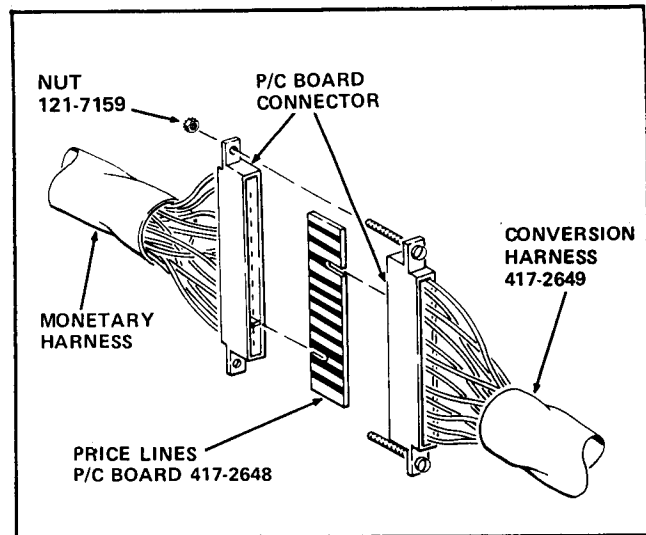

FIGURE 10
23. Fit the Price Lines P/C Board included in the kit, part number 417-2648, into the P/C Board Connector of the Conversion Harness included in the kit, part number 417-2649, and the P/C Board Connector of the Monetary Harness as shown in Figure 10.
24. Connect the two P/C Board Connectors together using the two Nuts included in the kit, part number 121-7159, as shown in Figure 10.